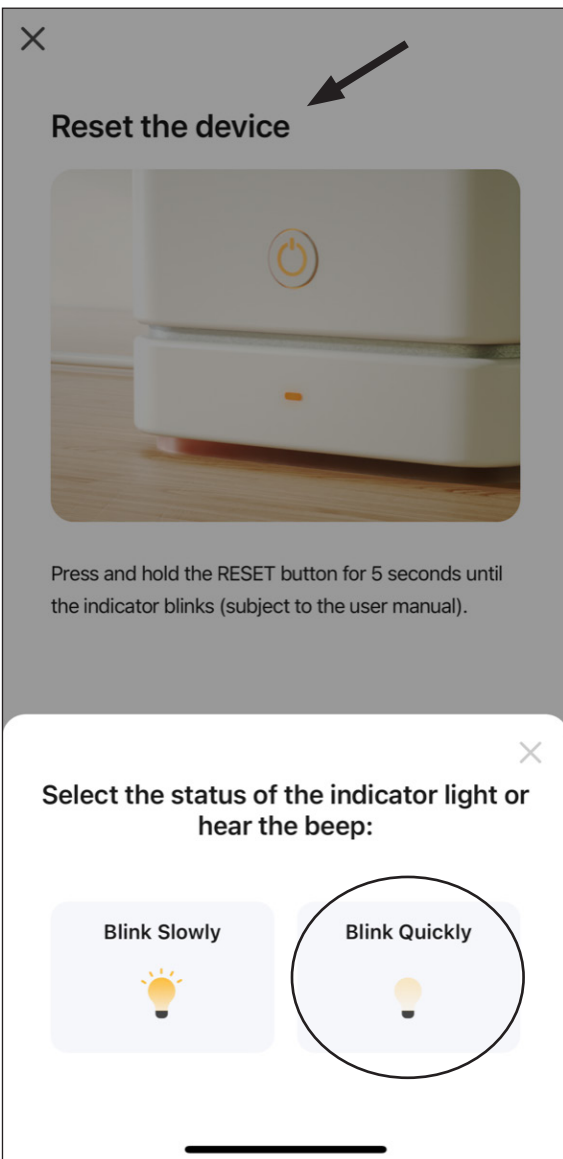
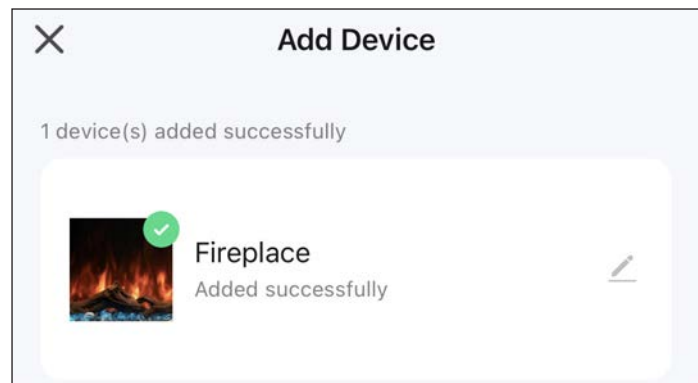

Figure 32: Fireplace Pairing
Figure 33: Fireplace Successfully Paired
7. With the fireplace now in pairing mode select the **Blink Quickly** option on the **Reset the Device** screen in the app (see figure 32). The app will begin pairing to the fireplace on a timing screen and automatically finish once pairing is successful (see figure 33).